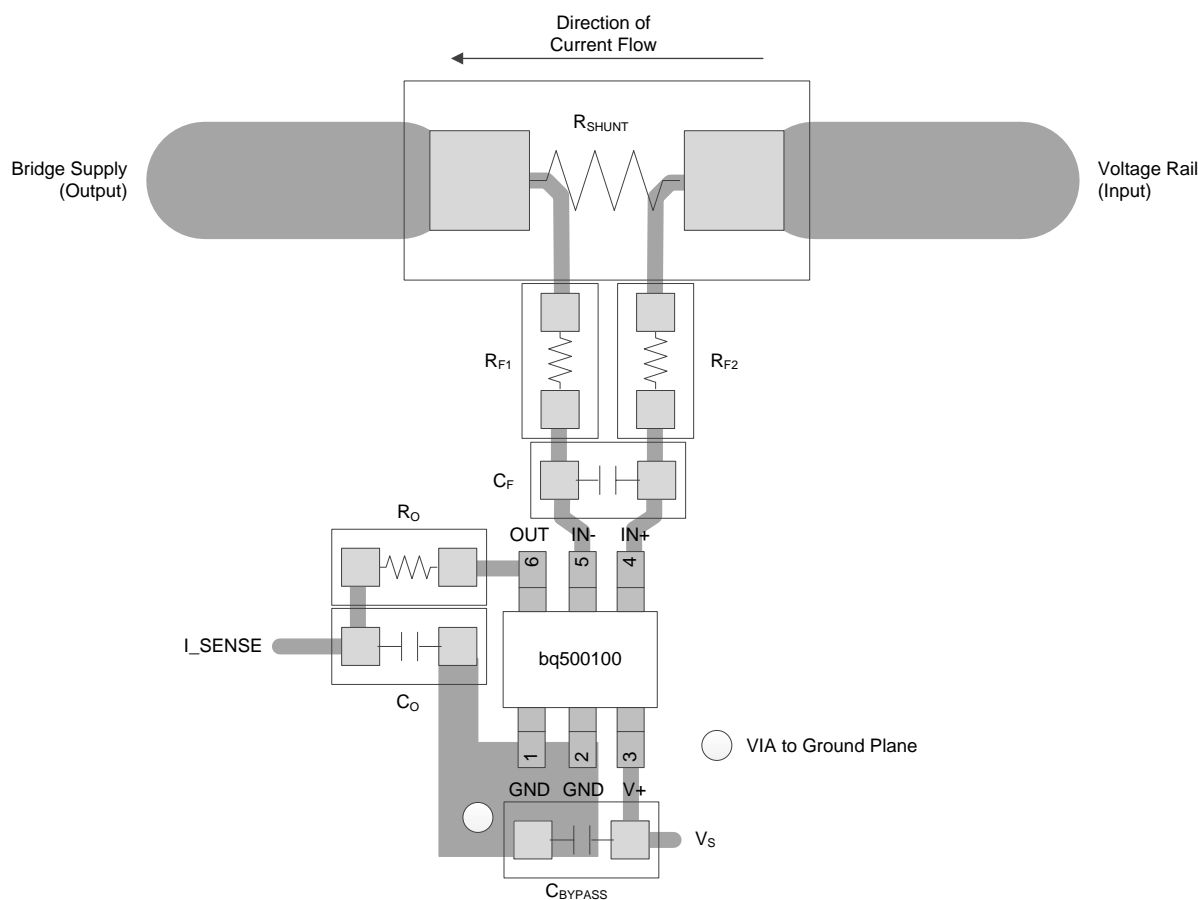

Figure 8. Recommended Layout
- The output of the current-sense circuit must be located as close as possible to the wireless power transmitter manager device. If the distance to the wireless power transmitter is greater than 1 cm, the output filter capacitor (C_O) shown in Figure 8 must be placed next to the I_SENSE pin of the wireless power transmitter manger. Placing the capacitor at the I_SENSE pin of the wireless power transmitter manger provides the best filtering of the current-sense signal.